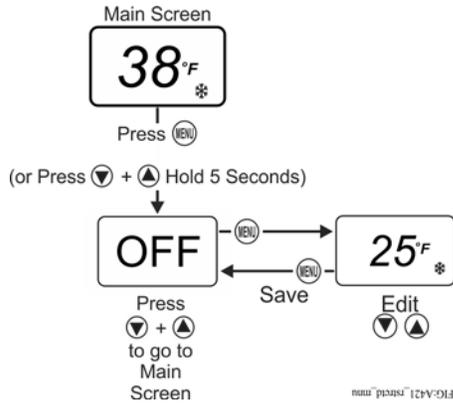

Figure 9: Adjusting Temperature in the Restricted Menu
- The basic and advanced menus are not available. Only the restricted adjustment mode menu is available and only the **OFF** value can be adjusted. See Figure 9.
1. In the Main Screen, press **MENU** to go to the restricted adjustment mode menu and display the **OFF** parameter code screen (Figure 9).